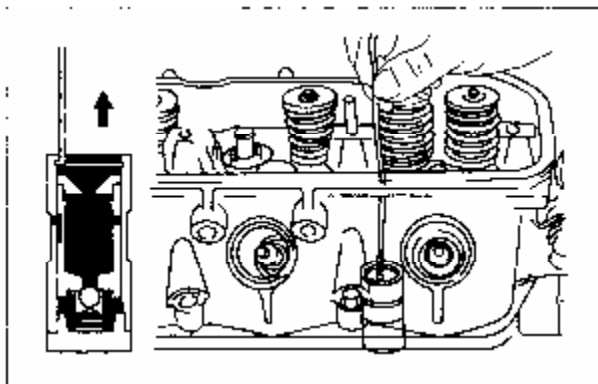

Figure 3-36 Take out Valve Tappet
3.4.1 Using a wire, follow the procedures in figure 3-36 to take out the valve tappet.